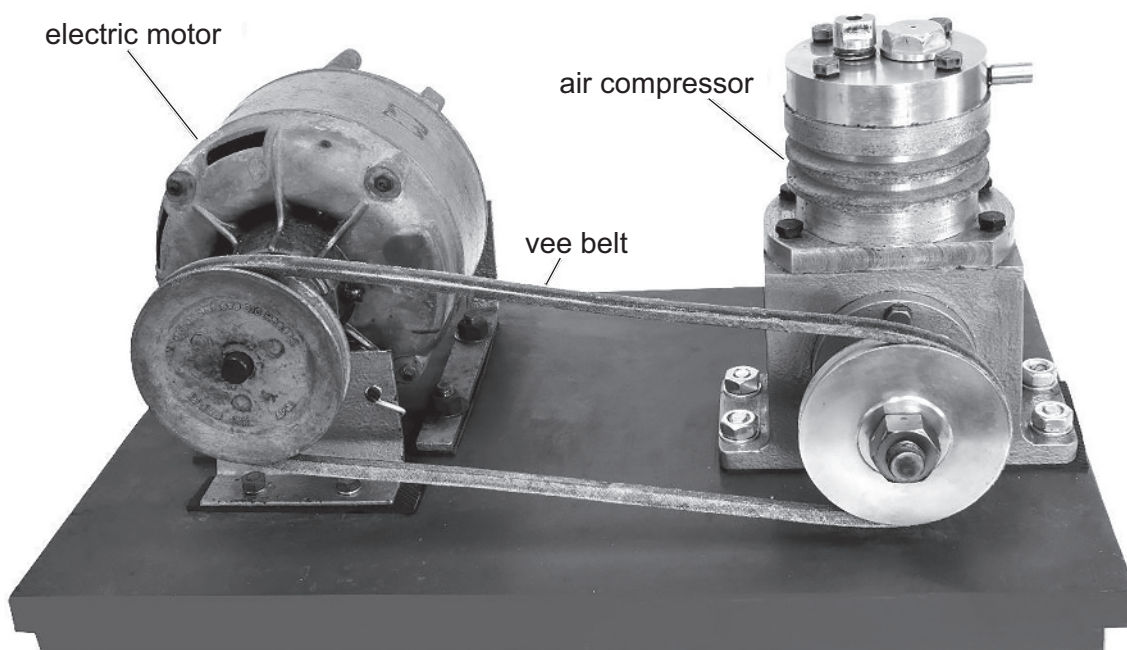

Fig. 11.1
- 11 Fig. 11.1 shows an air compressor driven by an electric motor.